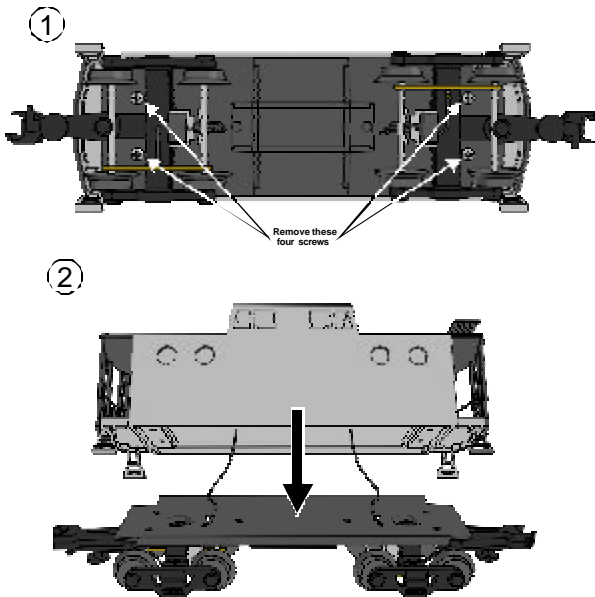

Figure 14-1,2. First two Steps of Changing the Caboose Lights
1. To remove the shell from chassis remove the four screws located underneath the trucks (figure 14-1).